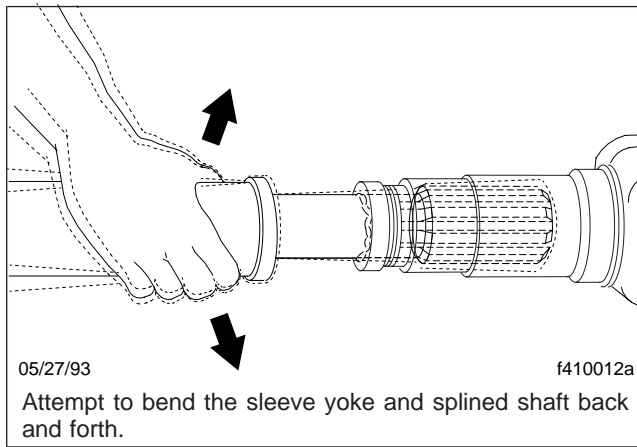

Fig. 2, Slip-Joint Spline Wear Checking
5. Check the slip-joints for spline wear by trying to bend the sleeve-yoke and splined shaft back and forth (see Fig. 2). If looseness is greater than 0.007 inch (0.18 mm), replace both the sleeve-yoke and the splined shaft.